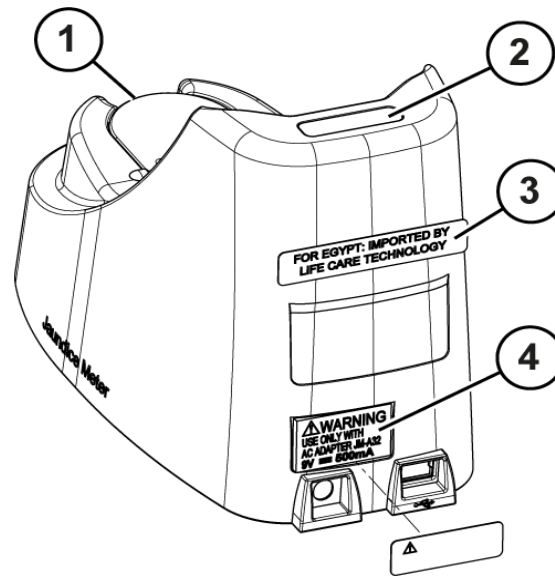

Fig. 4 Labels docking station
- Label below the checker cover with checker values (Fig. 4/1).
- Serial number (Fig. 4/2).
- Label for Egypt only (Fig. 4/3).
- Warning/Caution (Fig. 4/4).